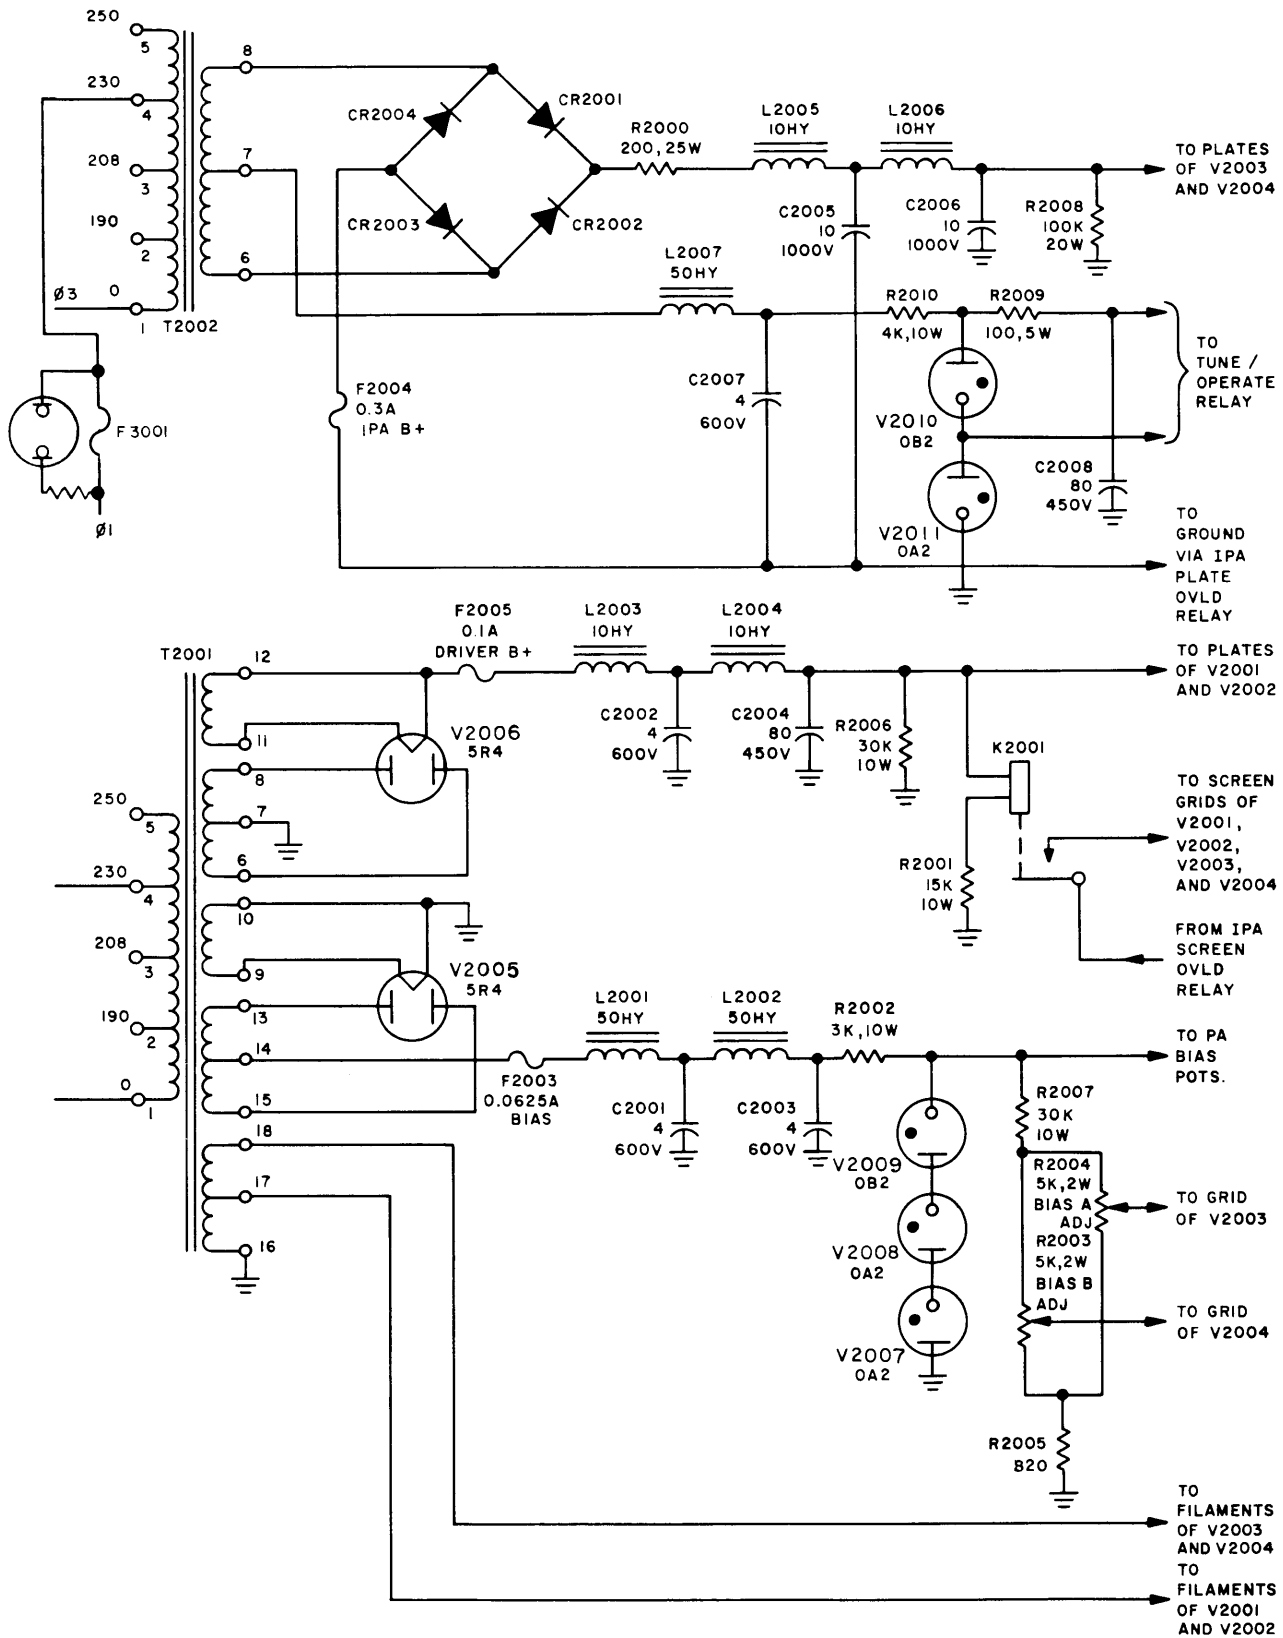

Figure 4-5. Simplified Schematic, Low Voltage Power Supplies
d. POWER SUPPLIES. (Refer to figure 4-5). -